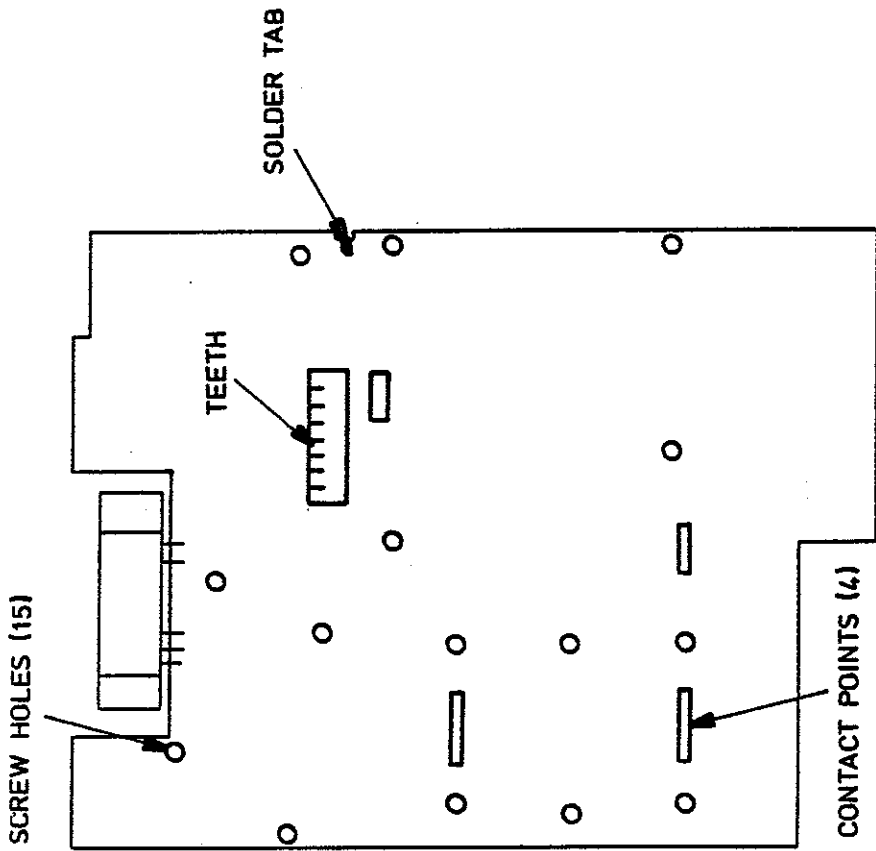

FIGURE 1
The following two sections address the desense and microphonics subjects separately. Refer to Figures 1, 2 and 3 on the attached page when following these procedures.
4. Thoroughly clean all points on the main board that make contact with the bottom shield (teeth and screw hole contact points). Remove any excess solder and solder resist that may interfere with the contact between the shield and the main board. See Figure 1.
7. Solder the Z200 ground bracket tab nearest to the wall of the radio to its ground trace located near the edge of the bottom side of the main board if required. Remove the solder resist if necessary. See Figure 1.
8. Apply a thin layer of contact lube to the teeth and screw hole contact points on either the main board or the bottom shield itself. See Figure 1.